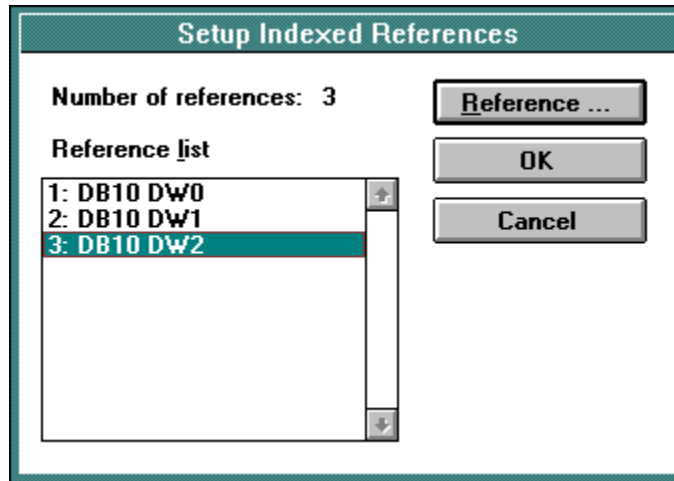

Figure 3-10
- Clicking on the *Indexed* button will bring up a dialog box that allows the user to specify which memory location's contents will be displayed when a particular value is written into DB10 DW9. For example, whenever a value of 1 gets written into DB10 DW9, we want the temperature for stage 1 to be displayed. Likewise for the values 2 and 3. To specify the address, simply click on the value you wish to link to an address and click on the *Reference* button. This will bring up a dialog box (see Figure 3-10) in which you can specify the address. Since we want a value of 1 to display the temperature in state 1 (whose value is located in DB10 DW0), the value of 1 gets referenced to DB10 DW0. This is done in a similar fashion with similar reasoning for DB10 DW1 and DB10 DW2.